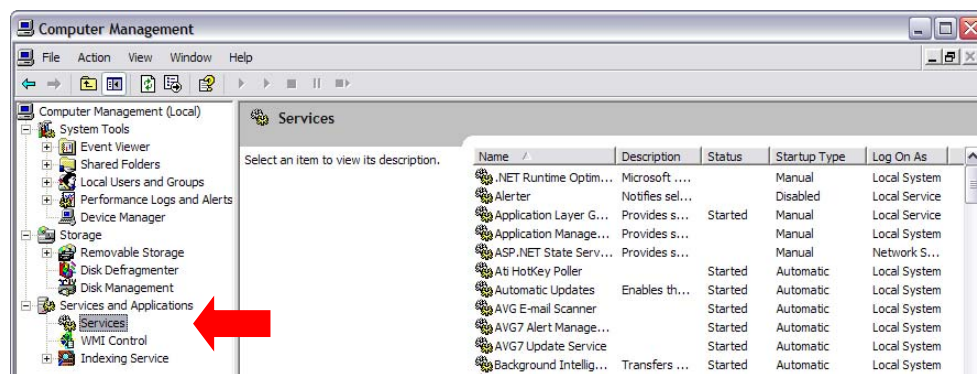

Figure II-5. Computer Management Window
- 1) Right-click on the **My Computer** icon on the Windows Desktop and select the **Manage** function from the shortcut menu to open the Computer Management window, similar to Figure II-5.
- 2) Find and click on the **Services** function in the left pane (as indicated by the red arrow in Figure II-5).